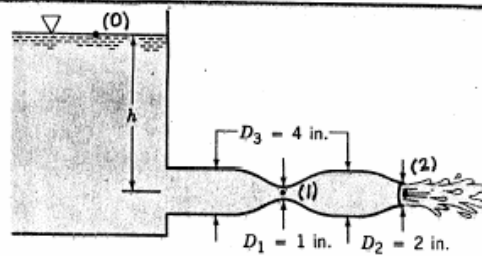

FIGURE P3.60
3.60 Water flows from a large tank as shown in Fig. P3.60. Atmospheric pressure is 14.5 psia and the vapor pressure is 1.60 psia. If viscous effects are neglected, at what height, h , will cavitation begin? To avoid cavitation, should the value of D_1 be increased or decreased? To avoid cavitation, should the value of D_2 be increased or decreased? Explain.